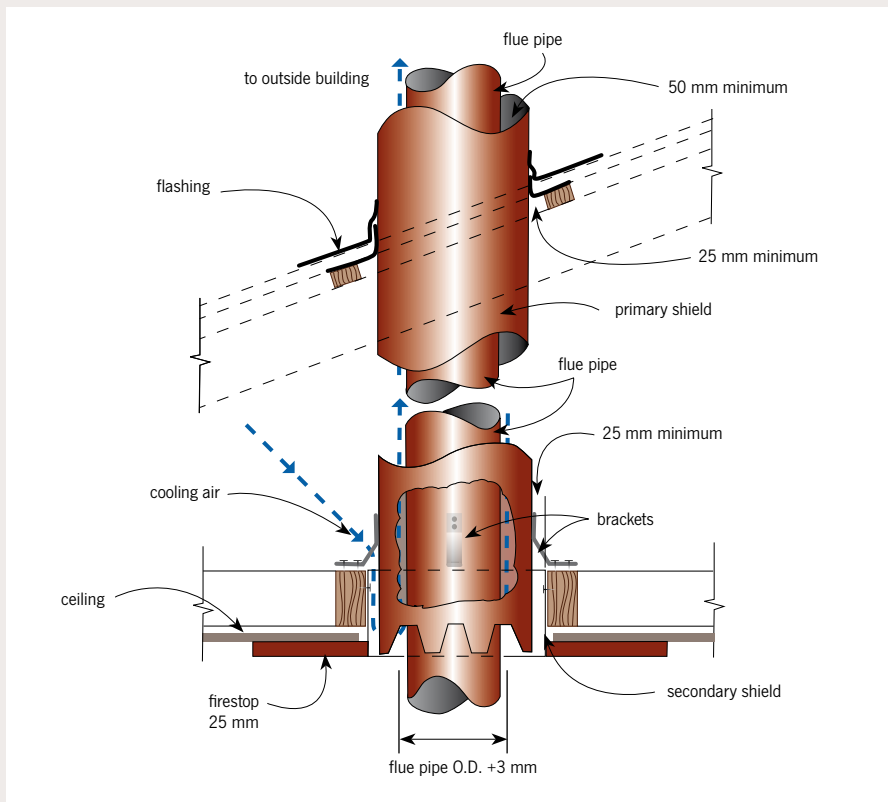

Figure 4: Air gaps at bottom of flue shields (modified from deleted standard NZS 7421). Refer to manufacturers literature for specific clearances.
shields open at the ends or where the shield rests against a plate, providing cut outs so that air can circulate between the annular spaces (see Figure 4).
- Don't forget the floor protector (thickness and projection from the heater) and the flue extensions from the roof (see Figure 4). ❖